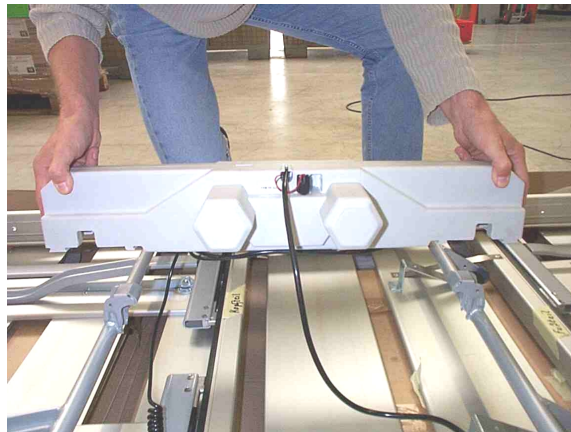

Figure 13
- Lay OKIMAT on the rotating shaft with the opening downwards so that the control lever in the middle of the rotating shaft pokes up into the OKIMAT casing (see Figure 13).